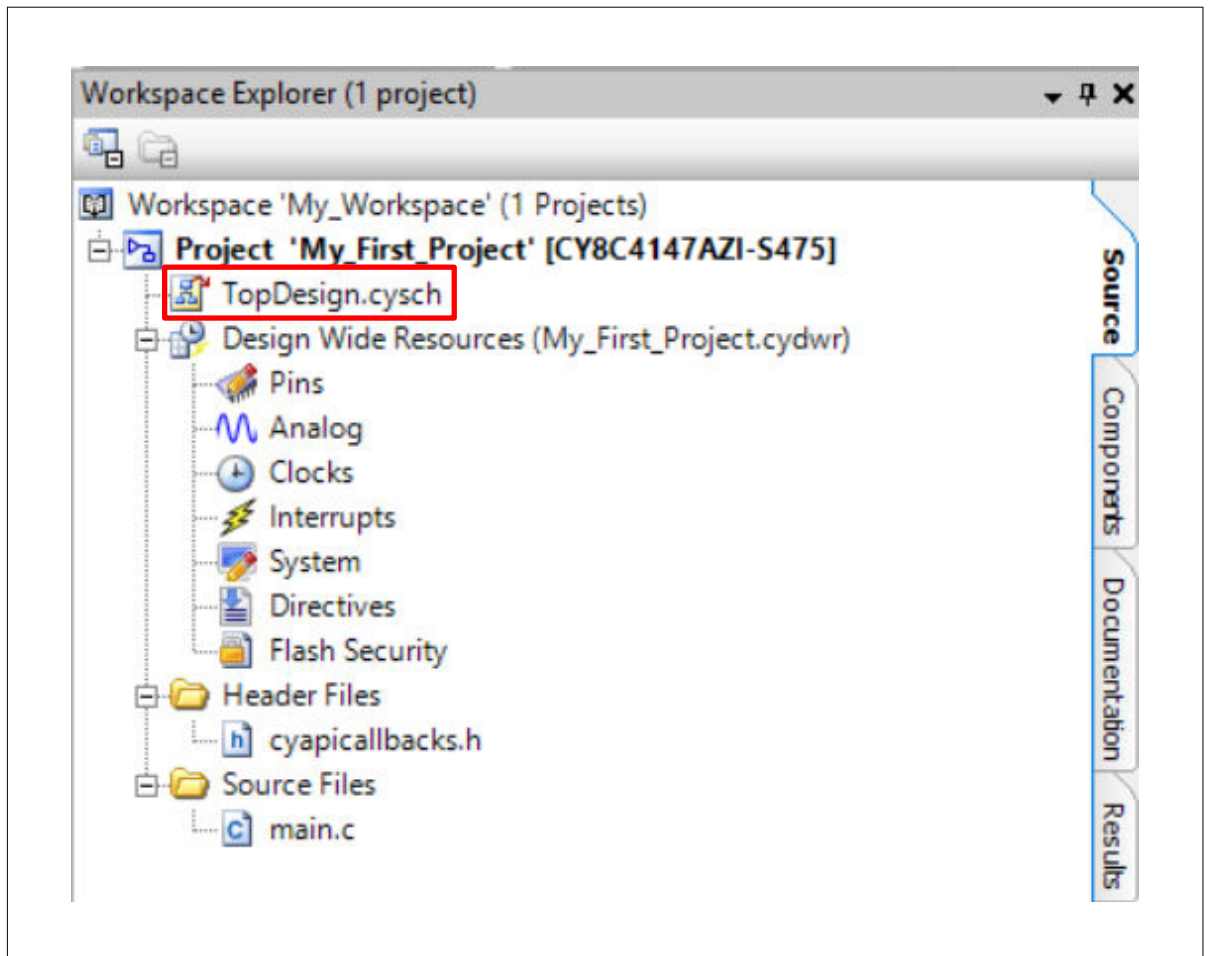

Figure 37 Opening TopDesign schematic
5. Creating a new project generates a project folder with a baseline set of files shown in the **Workspace Explorer** (see Figure 37). To open the project schematic file, double-click **TopDesign.cysch**.